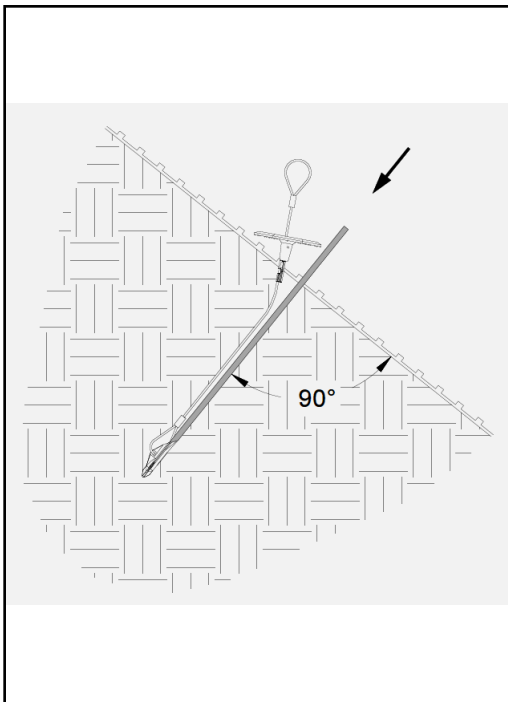

Figure 7: Drive Steel to Drive the Type B1 Anchor into the Ground
2. Using a percussion hammer, guide the drive steel into the ground perpendicular to the slope surface at a smooth pace. Continue driving until the desired embedment depth is reached. (Figure 7) Be careful not to allow the plate to slip downward along the cable tendon during step 2. Remove the plastic stop sleeve from under the plate after desired embedment depth is reached.